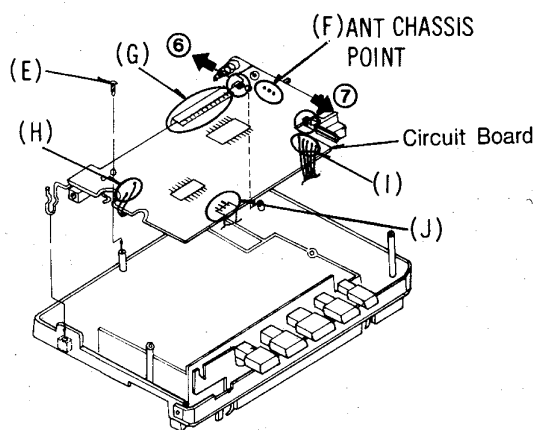
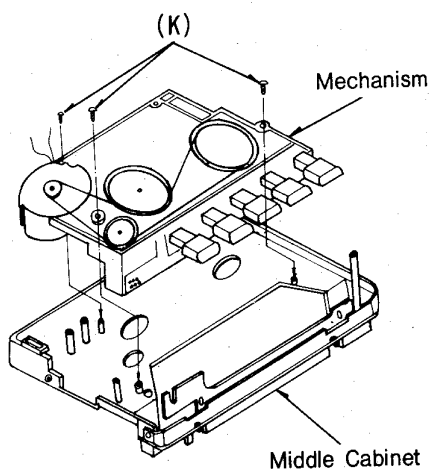

Fig. 6
Fig. 7
■ Removal of ANT Chassis and Circuit Board (See Fig.6)
- Remove the screws (E) (2×6)mm×1.
- Disconnect the solder (F).
- Remove the ANT chassis in the direction of arrow ⑥ & ⑦.
- Remove the solder (G), (H), (I), (J), from flexible P.C.B
■ Removal of the Mechanism and Middle Cabinet (See Fig.7)
- Remove the deck screws (K) (2×6)mm×3